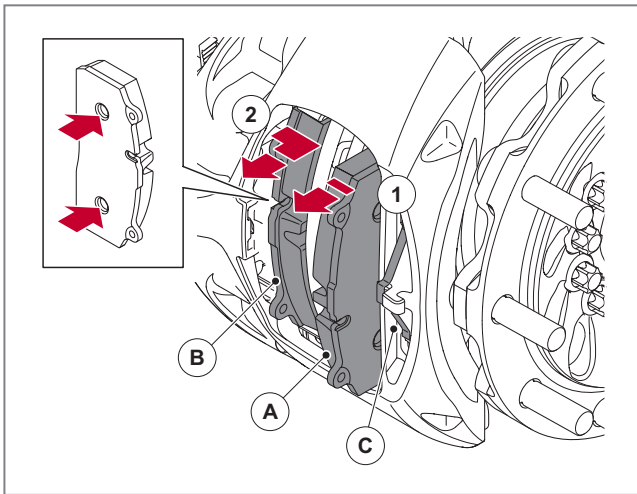

Fig. 39 - Removing the brake pads
- Remove the brake pads. Firstly remove the outer brake pad (A) followed by the inner brake pad (B), see ► Fig. 39.